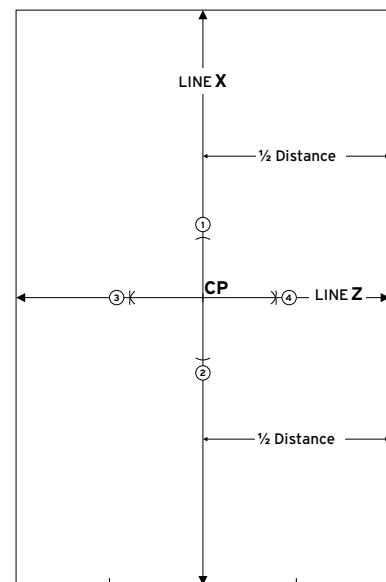

Figure 2
5.6.2 Setting out and installation for straight tiling (Refer to Fig 2)